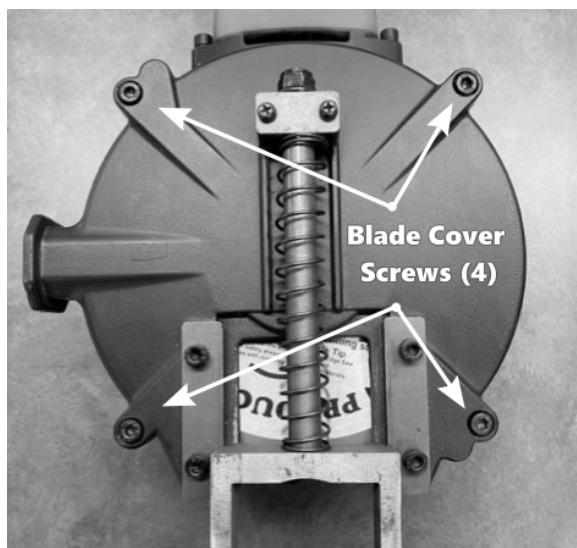

Figure 2 - Blade Cover Fasteners
- Using the smaller Allen key tool, remove the four (4) screws that hold the Blade Cover to the body of the saw. *See Figure 2*
See Figures 2, 3, and 4 on the next page.